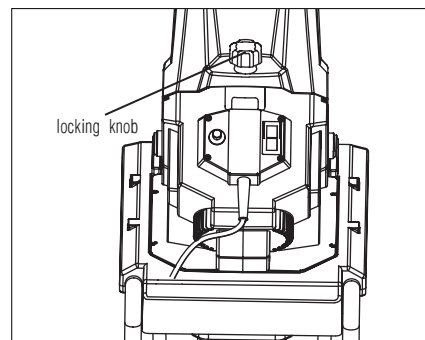

Fig. 4
2. Make sure the locking button and locking knob (Fig. 4) are locked before using the machine.